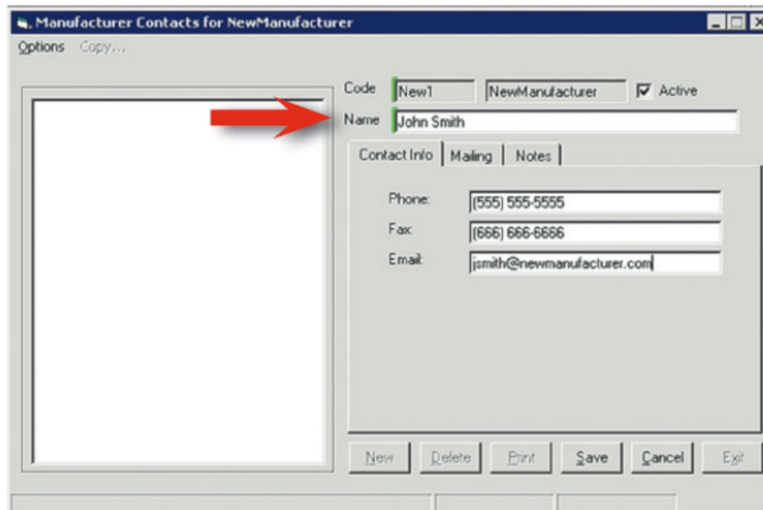

Figure 8. Manufacturer Contacts dialog creating a new contact.
5. Give the contact a **Name** (see Figure 8).